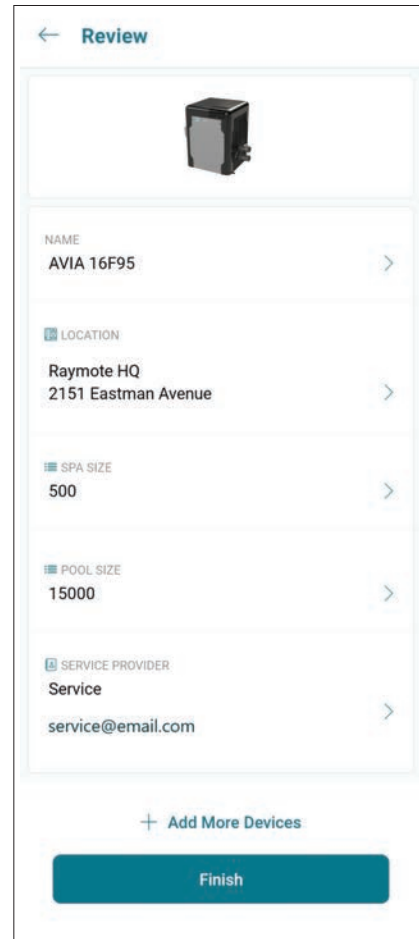

**Figure 96. Name Your Unit**
1. Your device is now connected to Wi-Fi. You can change the name of your device here. See **Figure 96**.